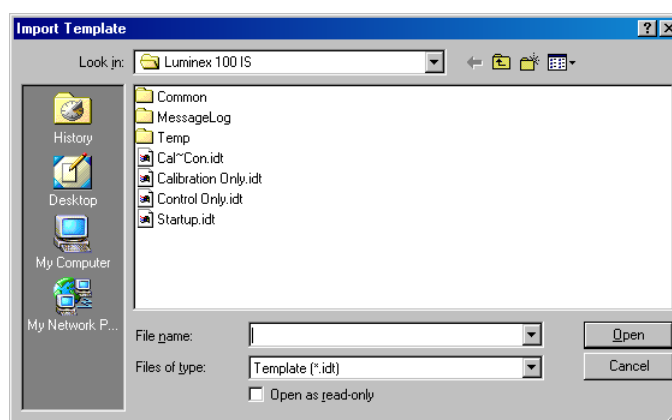

Figure 5-62 Import Template Dialog Box
2. On the **File** menu, click **Import Template**. The **Import Template** dialog box opens. See Figure 5-62.